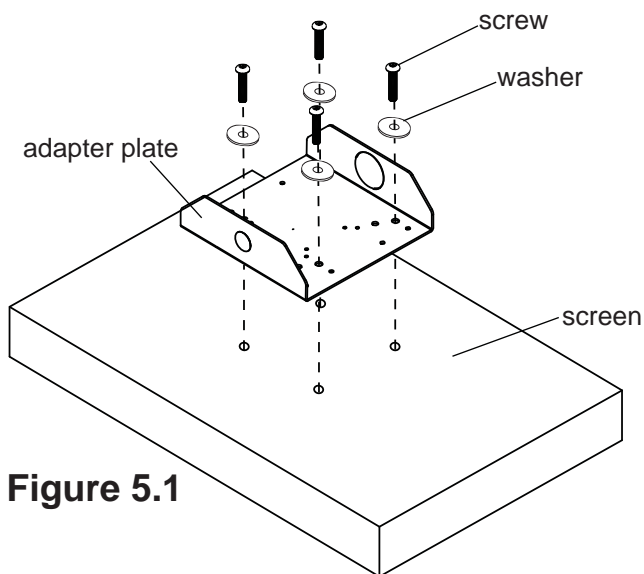
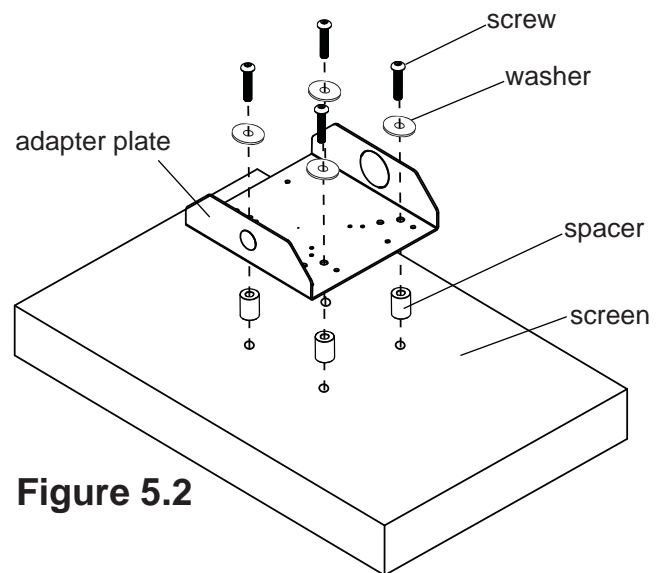

Figure 5.1
Figure 5.2
- 5 Select security screw that best fits your screen. Center adapter plate of column (A) on the back of the screen and align the four mounting holes. Attach column (A) to screen with four screws and four washers using allen wrench (C) as shown in figure 5.1. If screen has a bumped out or recessed back, spacers may be used between the screen and adapter plate of column (A) as shown in figure 5.2. Screw must make at least three full turns into mounting hole and fit snug into place.